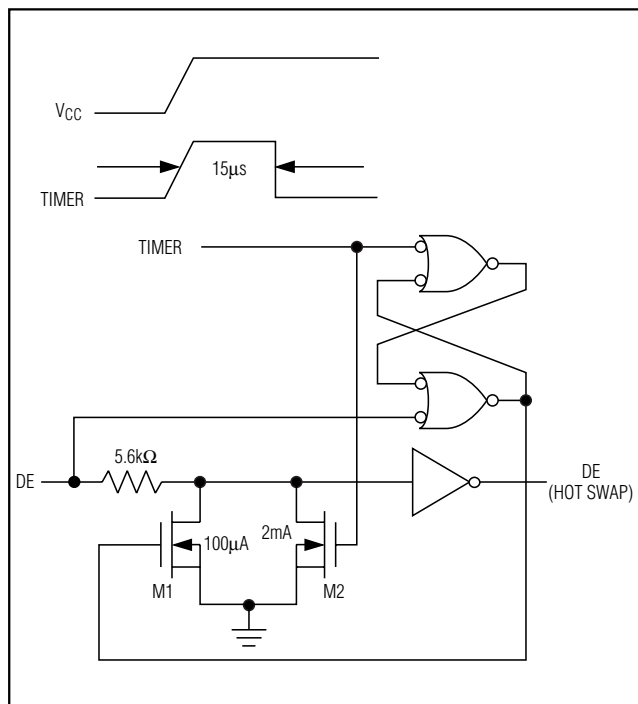

Figure 9. Simplified Structure of the Driver Enable Pin (DE)
At the driver enable input (DE), there are two NMOS devices, M1 and M2 (Figure 9). When VCC ramps from 0, an internal $15\mu\text{s}$ timer turns on M2 and sets the SR latch, which also turns on M1. Transistors M2, a 2mA current sink, and M1, a $100\mu\text{A}$ current sink, pull DE to GND through a $5.6\text{k}\Omega$ resistor. M2 pulls DE to the disabled state against an external parasitic capacitance up to 100pF that may drive DE high. After $15\mu\text{s}$, the timer deactivates M2 while M1 remains on, holding DE low against three-state leakage currents that may drive DE high. M1 remains on until an external current source overcomes the required input current. At this time, the SR latch resets M1 and turns off. When M1 turns off, DE reverts to a standard, high-impedance CMOS input. Whenever VCC drops below $1V$, the input is reset.